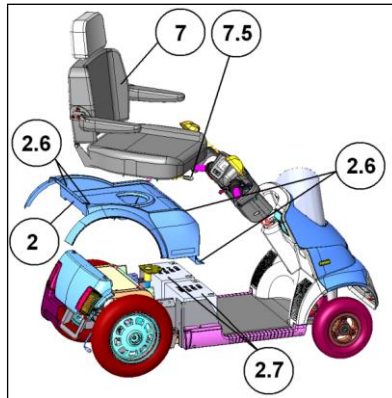
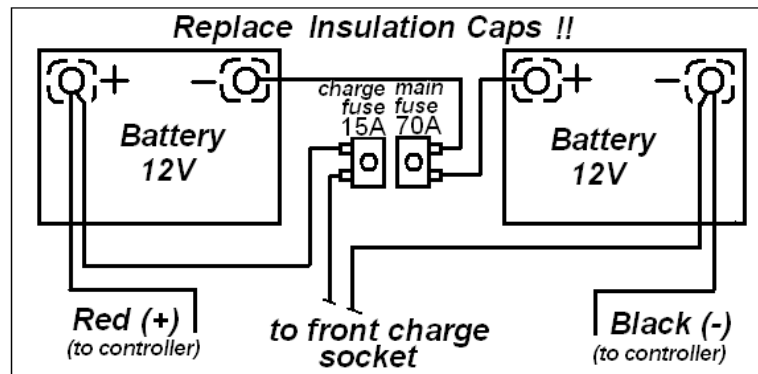

Figure 11
Figure 12
2. The numbers in parentheses refer to the parts illustrated in figure 11.
Replace batteries	Note! Batteries must be replaced by trained professionals only. Warning! Batteries contain high energy and can spark, resulting in a possible fire hazard. Warning! Working with batteries can cause damage and Injury if not done properly. In this procedure, refer to Figure 12. 1. Remove the terminal insulating cap from one battery terminal. 2. Using a 10/13 mm key, unscrew the wiring from the terminal. Take care not to let the key touch any other terminal or metal part, as this could cause damage or injury. 3. Repeat steps 1 and 2 for all the other terminals. 4. Remove the old batteries and install the new ones. 5. Connect the wires of the new batteries as shown in Figure 11 (also shown on the label located near the batteries). 6. Screw down the terminals securely, and replace the insulating caps.